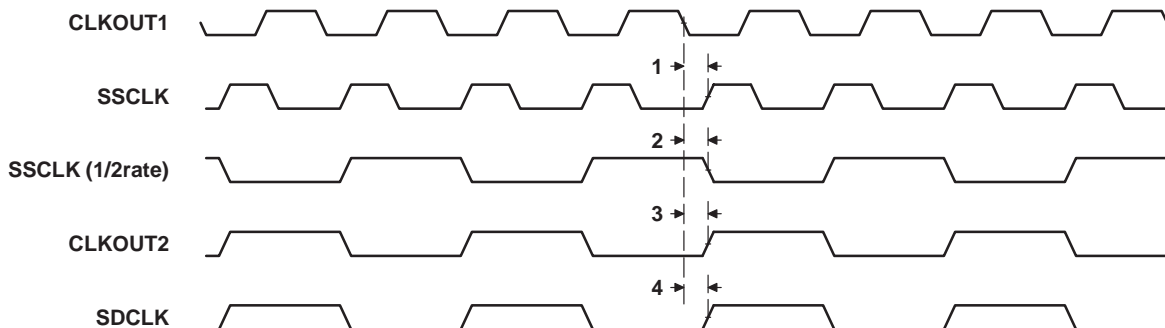

Figure 11. Relation of CLKOUT2, SDCLK, and SSCLK to CLKOUT1
**switching characteristics for the relation of SSCLK, SDCLK, and CLKOUT2 to CLKOUT1 (see Figure 11)**